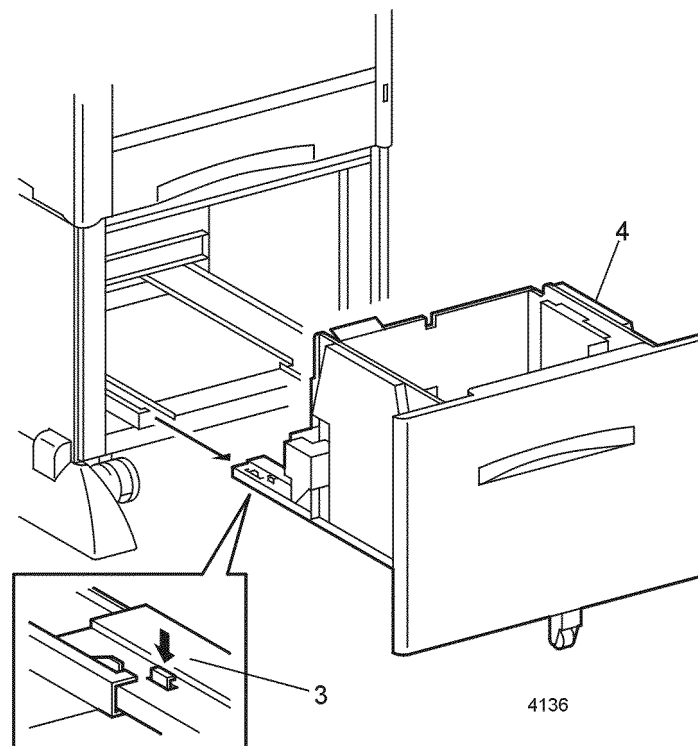

Figure 1 Tray Assembly
3. Push and hold the button on the Left Rail to release the latch (Figure 1).
4. Remove the Tray Assembly (Figure 1).